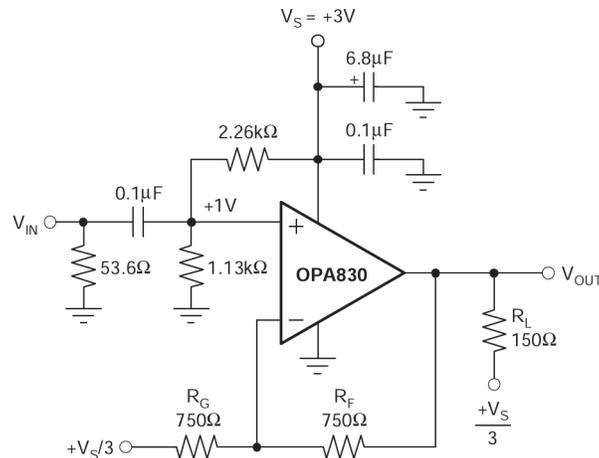
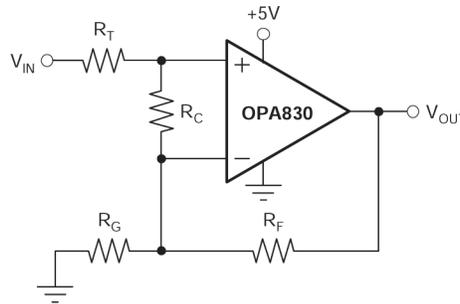

Figure 8-2. AC-Coupled, G = +2, +3V Single-Supply Specification and Test Circuit
Figure 8-9. Compensated Noninverting Amplifier
at $T_A = 25^\circ C$, $G = +2$, and $R_L = 150\Omega$ to $V_S/3$ (unless otherwise noted); see also Figure 8-2
Figure 8-2 shows the ac-coupled, gain of +2 configuration used for the 3V *Electrical Characteristics* and *Typical Characteristics*. For test purposes, the input impedance is set to 50Ω with a resistor to ground. Voltage swings reported in the *Electrical Characteristics* are taken directly at the input and output pins. For the circuit of Figure 8-2, the total effective load on the output at high frequencies is 150Ω || 1500Ω. The 1.13kΩ and 2.26kΩ resistors at the noninverting input provide the common-mode bias voltage. The parallel combination equals the dc resistance at the inverting input (R_F), reducing the dc output offset due to input bias current.
Frequency response in a gain of +2 can be modified to achieve exceptional flatness simply by increasing the noise gain to 3. One method, without affecting the +2 signal gain, is to add a 2.55k Ω resistor across the two inputs (see also Figure 8-9). A similar technique can be used to reduce peaking in unity-gain (voltage follower) applications. For example, by using a 750 Ω feedback resistor along with a 750 Ω resistor across the two op amp inputs, the voltage follower response is similar to the gain of +2 response of Figure 8-2. Further reducing the value of the resistor across the op amp inputs further dampens the frequency response due to increased noise gain. The OPA830 exhibits minimal bandwidth reduction going to single-supply (5V) operation as compared with $\pm 5V$. This minimal reduction is because the internal bias control circuitry retains nearly constant quiescent current as the total supply voltage between the supply pins changes.
The criterion for setting this R_S resistor is a maximum bandwidth, flat frequency response at the load. For a gain of +2, the frequency response at the output pin is already slightly peaked without the capacitive load, requiring relatively high values of R_S to flatten the response at the load. Increasing the noise gain also reduces the peaking (see Figure 8-9).
Figure 8-9 shows a noninverting amplifier that reduces peaking at low gains. Resistor R_C compensates the OPA830 to have greater noise gain (NG), which reduces the ac response peaking (typically 5dB at $G = +1$ without R_C) without changing the dc gain. V_{IN} must be a low impedance source, such as an op amp. The resistor values are low to reduce noise. Using both R_T and R_F helps minimize the impact of parasitic impedances.